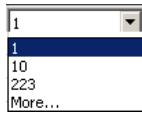

Figure 5-4. Change Control Point
- Click in the *WGS Point / Local Point* column and select the corresponding point (Figure 5-4).